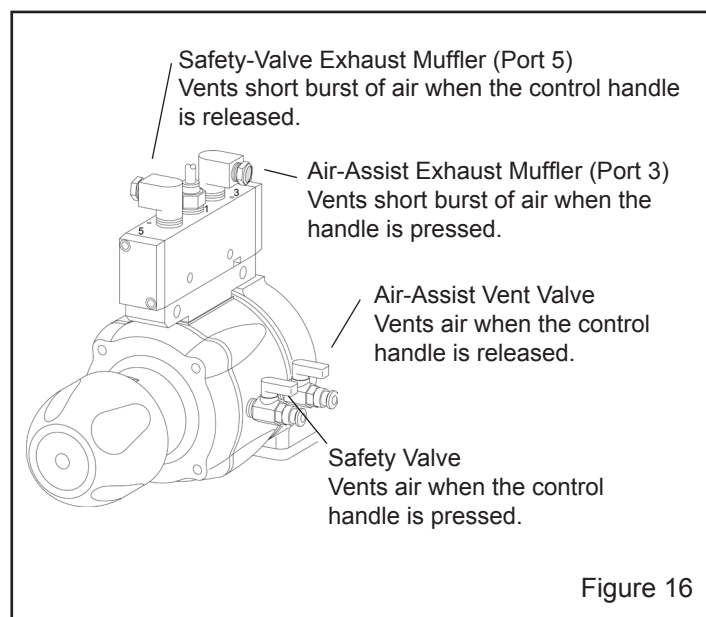

Figure 16
5.8 Check the Operation and Function of 4-Way Pilot Valve – Figure 16
5.8.2 Have someone hold the blast hose securely and press the control handle lever. A short burst of air should come from the air-assist exhaust muffler (Port 3), shown in Figure 16. Before releasing the control handle, gradually open the safety valve (closest to the metering knob) until air is barely noticeable coming from the valve.